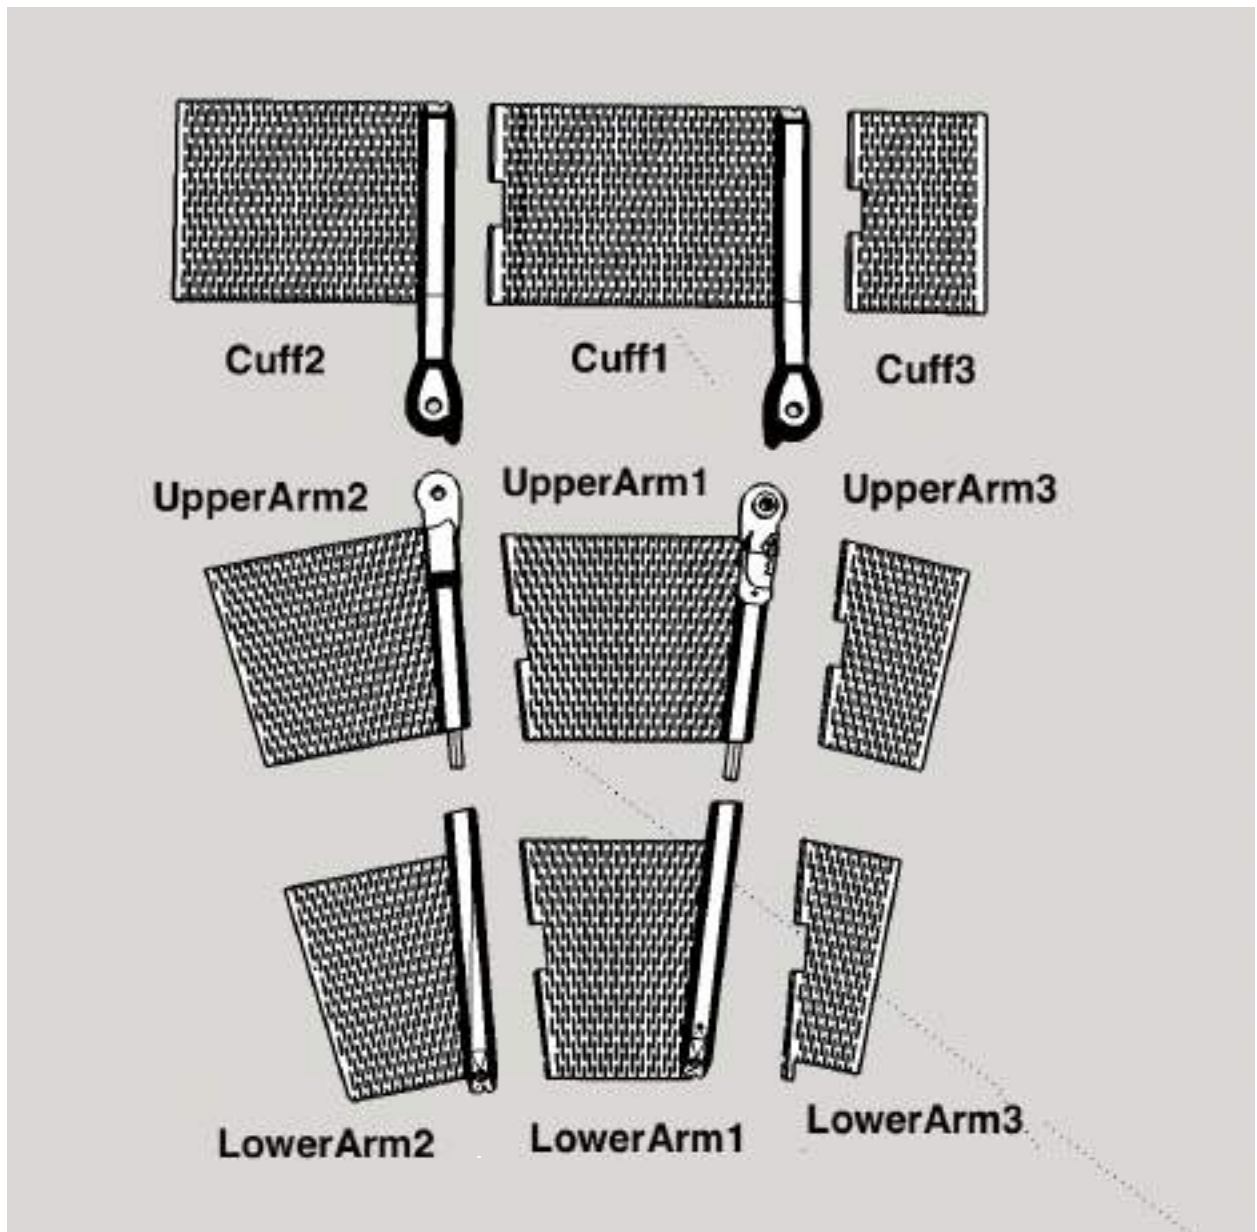

Figure 4: Forearm and Cuff Part Layout
1. Arrange the plastic Cuff and Forearm pieces as shown in Figure 4. This figure shows a right arm assembly. The left arm configuration would be the mirror image of this figure.
4. **This step applies to the plastic option:** Use 2 part epoxy to attach Cuff2 to Cuff1 and Cuff3 to Cuff 1—see orientation in Figure 4.
5. **This applies to the Leather Option:** Lay the three leather pieces (cut previously) flat with the top smooth surface that will eventually be in the contact with the skin of the recipient. Use Figure 4 to align the leather similar to the layout of the plastic parts and make sure holes align properly. Verify the holes in the cuffs line up with the holes in the leather.